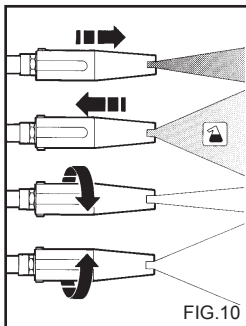

FIG.10
## USING THE MULTIREG ADJUSTABLE NOZZLE (fig. 10)
- 2) Start the cleaner, turn on the detergent tap (if present), switch on the detergent suction control on the lance (fig. 10) and spray the dirty surface with the diluted product, working from bottom to top. Let it react for a few minutes.